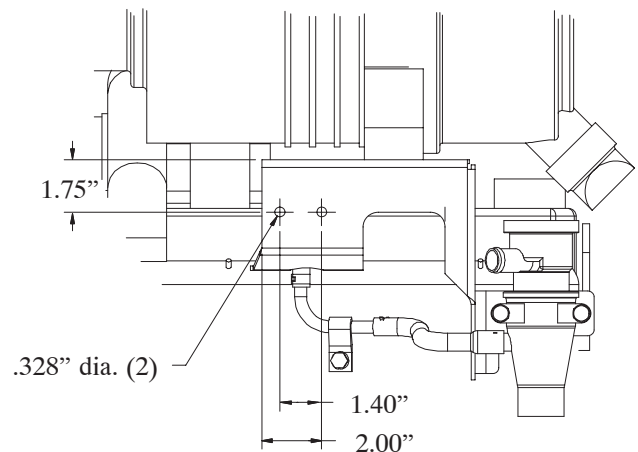

Figure 2
4. Using the dimensions shown in figure 2, locate, mark and drill (2) .328 inch diameter holes in the air cleaner mounting bracket which is located below the air cleaner.
5. Loosely secure the new fuel filter mounting band to the air cleaner mounting bracket with (2) capscrews and flange nuts (Fig. 2). Do not tighten the fasteners at this time.
1. Using the dimensions shown in figure 2, locate and affix the fuel filter kit decal to the muffler bracket. Make sure to clean the muffler bracket before affixing the decal.